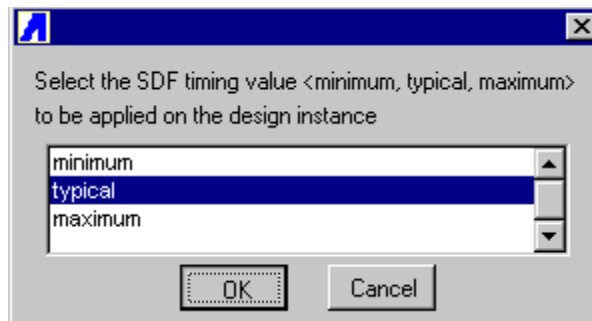

Figure 24 SDF Timing Value
8. Select **post_test_bench** and press **OK**, the SDF timing value dialog appears, see **Figure 24**.